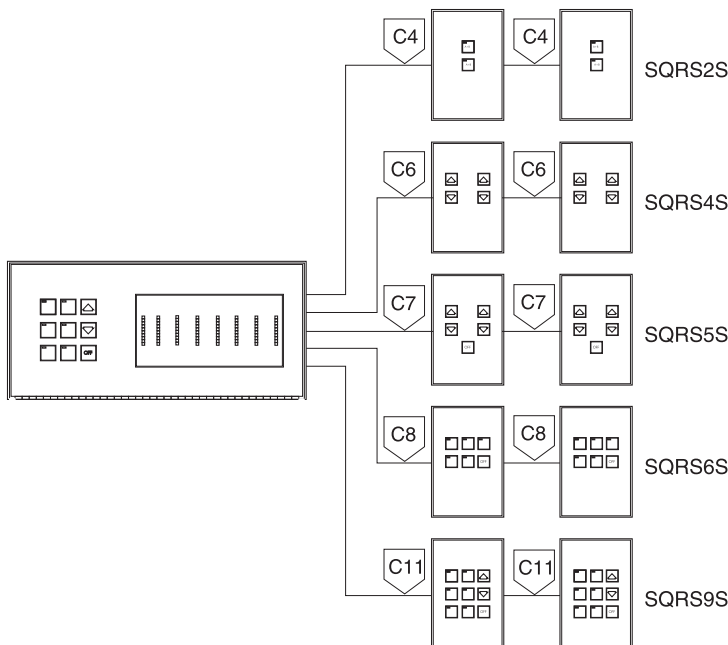
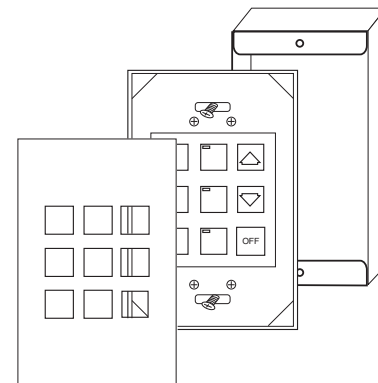
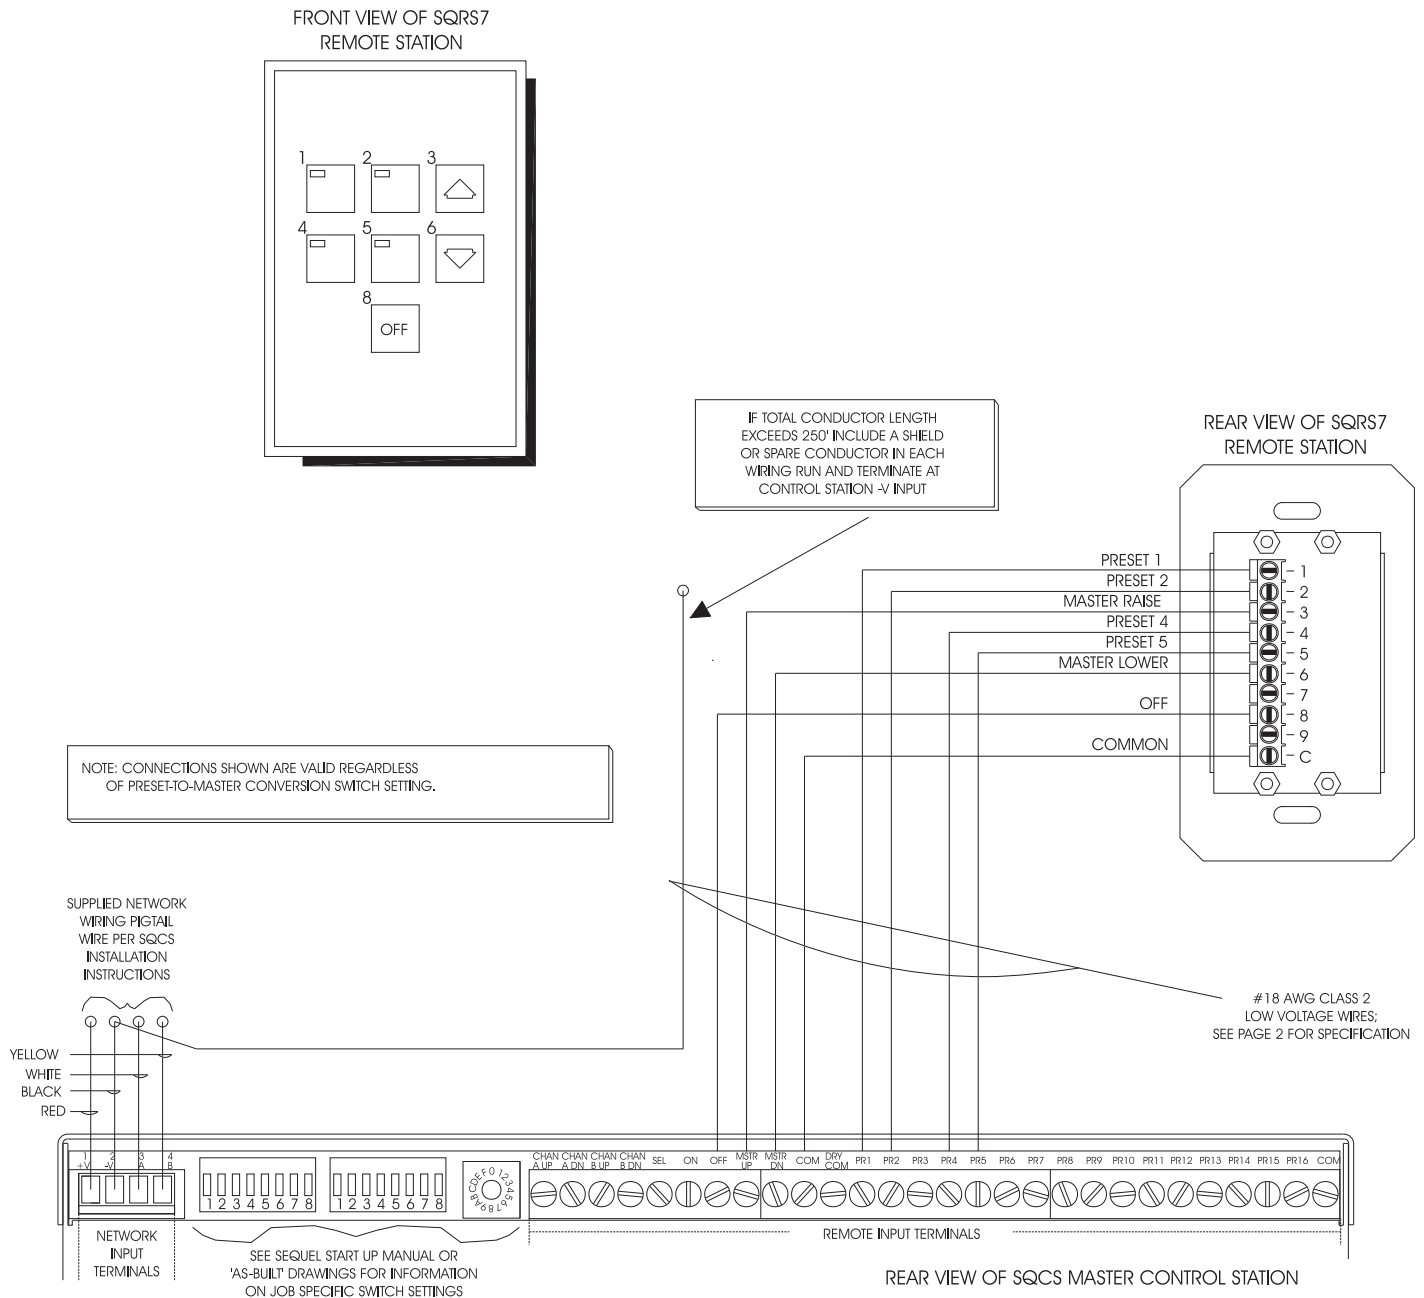

Figure 1
Figure 2 - Exploded View of Remote Station
Figure 3 - Sequel Control Station to Remote Control Station Interconnection Wiring Details
1. Install a 2" wide single gang masonry box (RACO #690, Steel City #GW125C) or square corner ring (RACO #782) at the desired location. Remote station frame must be mounted to a grounded back box, or a separate ground conductor must be added. For cut-in locations do not use "F clips", use 2" wide box equal to Caddy MPLS to avoid the circuit board shorting to box. See figure 2.
2. Connect this remote to a single Sequel Series Control Station (SQCS, SQMPCS, SQIDC) or a single Remote Station Interface (SQRSI, SQMPRSI) with (8) Class 2 #18 AWG conductors. Add a spare conductor to this run if total length exceeds 250 feet (80m).
3. Remotes which have the same function can be wired in a daisy chain, or may be home run separately and connected under the same terminal at the control station or interface. See figure 1.
4. Refer to figure 1 (below left) for typical one line wiring details, and to figures 3 - 5 for Lithonia typical interconnection wiring details. Refer to "As Built" drawings for project specific wiring details.